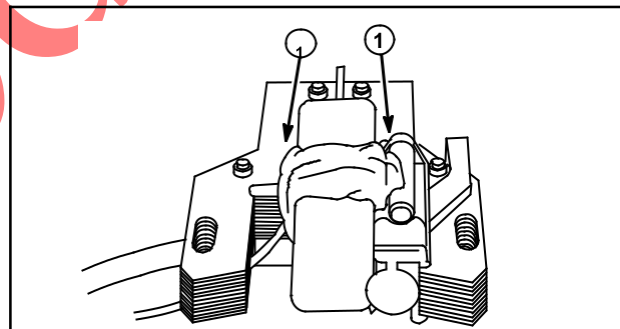

Fig. 16
5. Seal wires to ignition armature (1) with Permatex No. 2 or similar sealer to prevent wires from vibrating and breaking, Fig. 16.